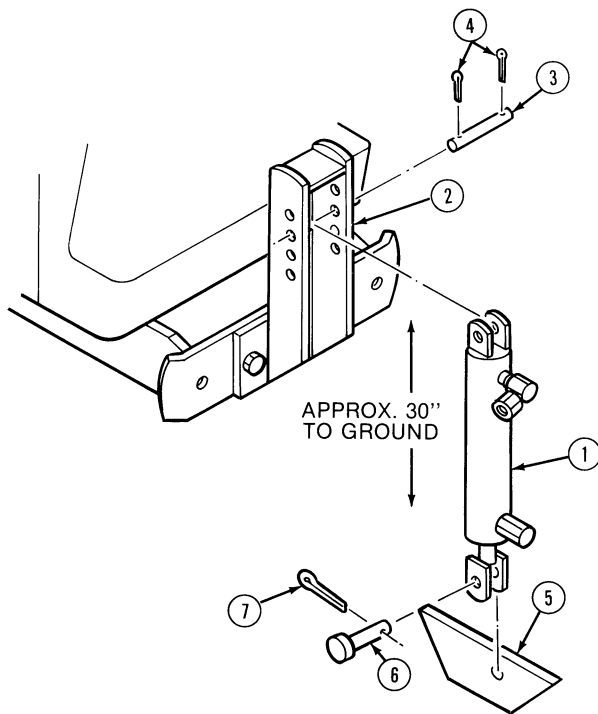

Figure 21
2. Attach the cylinder, (1), to the cylinder support, (2), using one pin, (3), and two 1/4" x 1-1/2" cotter pins, (4), as shown in Figure 21.
3. Attach the lift cylinder rod to the forward frame, (5), using a 3/4" dia. x 2" clevis pin, (6), and 1/8" x 1-1/4" cotter pin, (7), as shown in Figure 21.